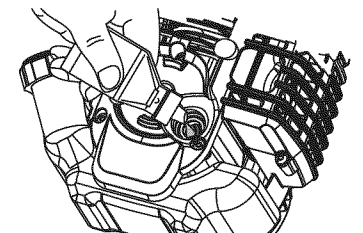

Fig. 21
6. If the oil level is not touching the inner most thread on the oil fill hole, add a small amount of oil to the oil fill hole and recheck (Fig. 21). Repeat this procedure until the oil level reaches the inner most thread on the oil fill hole.